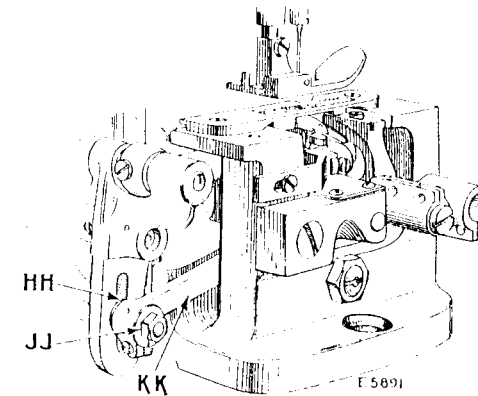
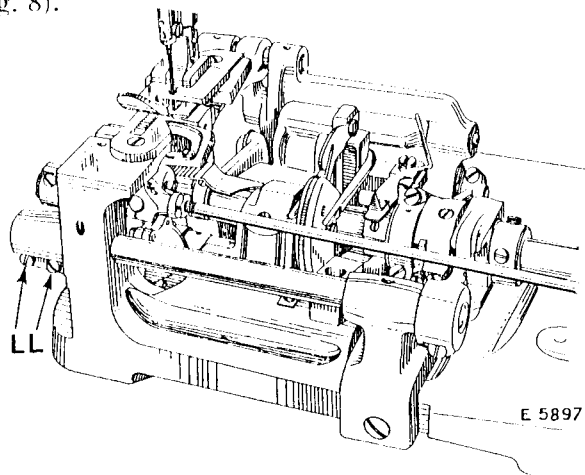

FIG. 8
Fig. 9
The auxiliary feed is regulated by raising or lowering the front feed connecting rod (KK, Fig. 8) in the slot (HH, Fig. 8)
in the feed rocking frame. To increase the amount of gather of the goods, loosen the nut (JJ, Fig. 8) and move the connecting rod (KK) downwardly in the slot (HH). To decrease the amount of gather of the goods, move the connecting rod upwardly in the slot (HH). When the desired amount of gather of the goods is obtained, firmly tighten the nut (JJ).
Before adjusting the front or auxiliary feed dog, loosen the nut (JJ, Fig. 8) and move the front feed connecting rod (KK, Fig. 8) up to its highest position in the slot (HH, Fig. 8) of the feed rocking frame. The front feed dog should be set at the same height as the rear feed dog. To make this adjustment,
loosen the two screws (LL, Fig. 9) in the front feed lifting rock shaft crank and raise or lower the feed dog, as required. Then securely tighten the two screws (LL) and return the front feed connecting rod (KK, Fig. 8) to its original position in the slot (HH, Fig. 8).